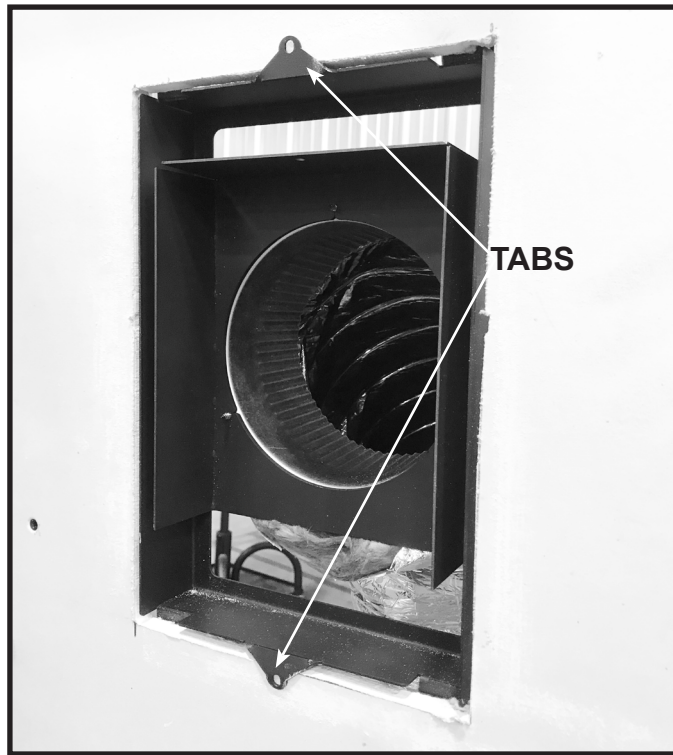

Figure 6.3 Bend Register Cover Tabs
2. Bend over both register cover tabs. See Figure 6.3.